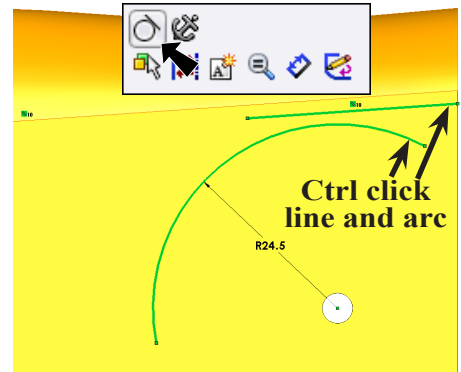
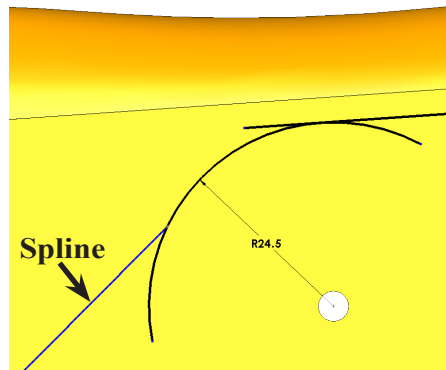

Fig. 94
Fig. 95
Step 13. **Ctrl click line and arc to select both, Fig. 94.**
Step 14. Click **Make Tangent**  on the Content menu, **Fig. 94**.
Step 15. Click **Spline**  (S) on the Sketch toolbar.
Step 16. Draw **two point** spline between arc and bottom edge of body, **Fig. 95**.